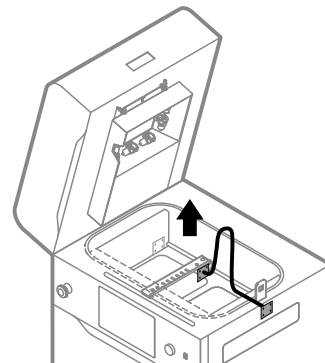

Fig. 13.22 Drag out the plate without spring above the Recoater's roller.
23. Drag out the end of the cord (without spring) above the Recoater's roller. At first the mounting plate, then the ending, through the gap between the roller and Recoater housing. Be careful not to touch the roller (fig. 13.22).